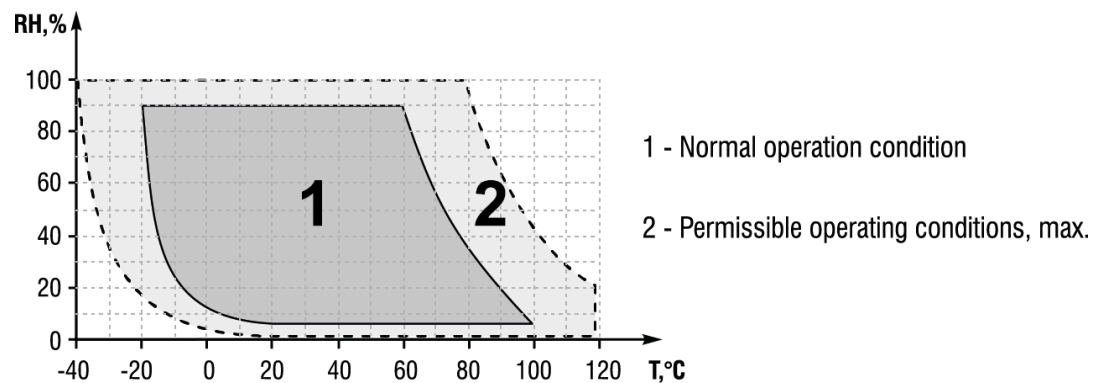

Fig. 3.1 Operating conditions
Operating conditions*	See Fig. 3.1
* Normal operating conditions of the device are shown in Fig. 3.1.